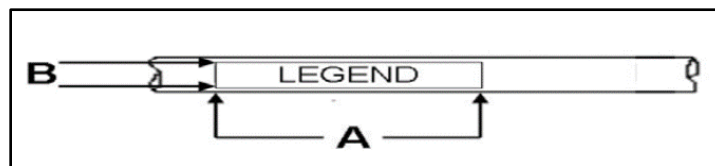

Figure 9-1. Pipe Label Legend for Piping System
- visible and legible legend letters no less than ½ inch height (Figure 9-1 and Table 9-2).